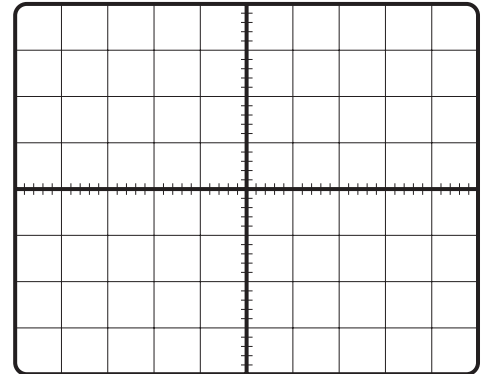

Figure 3
- Carefully draw the input and output signals on the graph shown in Figure 3. Label it properly.
1) Compare the output signals that you have drawn in Figures 3 and 5.